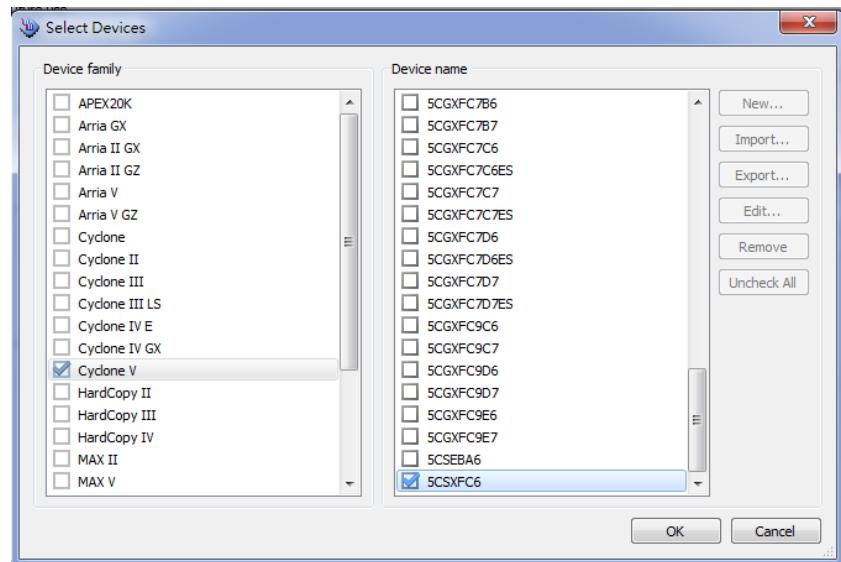

Figure 7-4. Select Devices Page
12. Select the targeted FPGA that you are using to program the serial configuration device. See **Figure 7-4**.